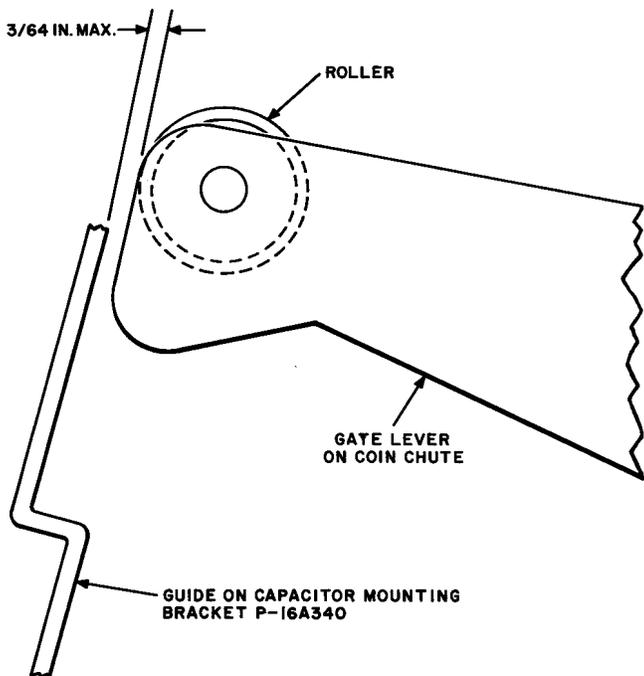

Fig. 3 — Clearance Between Guide and Gate Operating Arm
- (1) Disconnect attached leads.
- (2) Loosen filter, if present.
- (3) If gong signal assembly is mounted on swing bracket:
- (4) Remove mounting screw.
- (5) Remove bayonet guides by pushing them toward coin chute and rotating one-fourth turn in either direction.
- (6) Lift coin chute from upper housing.
- End of gate operating arm guide on capacitor mounting bracket should clear gate lever (Fig. 3).